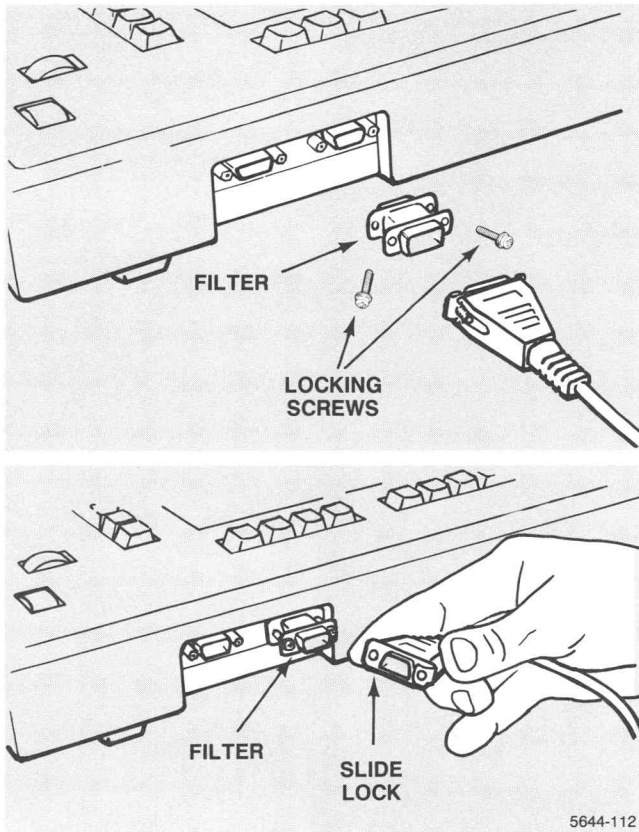

Figure 7-5. Installing a Mouse and Filter.
- Connect the filter and mouse cable at the TO MOUSE port (right port looking at the back of the keyboard as shown in Figure 7-5). Using the locking screws supplied, connect the filter to the port. Move the slide mechanism on the mouse plug to one side, attach the plug to the filter, and slide the mechanism back to lock the plug to the filter.